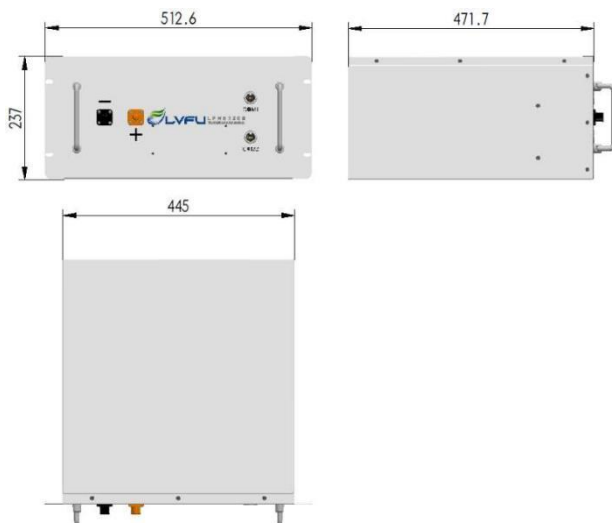

Figure3. External view of LFH51200
(1) The shapes of LFH51200 rack mounted battery are shown in figure 3: